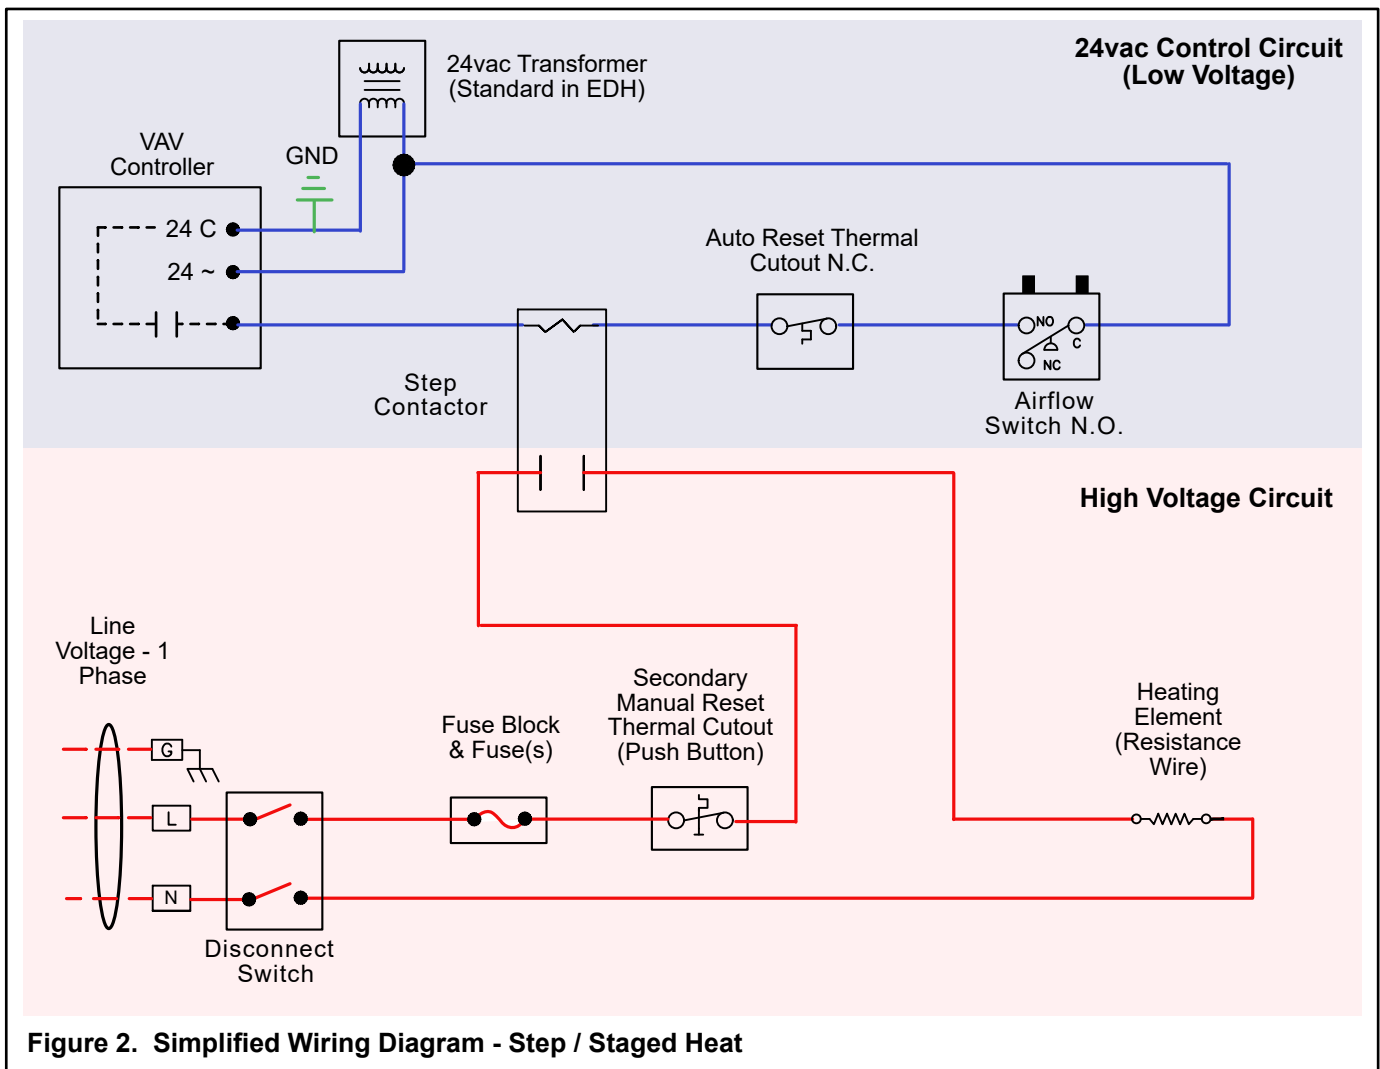

Figure 2. Simplified Wiring Diagram - Step / Staged Heat
A single duct VAV box with an Electric Duct Heater (EDH) consist of 2 parallel circuits. See figure 2 for a generic, simplified wiring diagram for a basic understanding of the heater controls arrangement. Actual heater wiring diagram is located on the inside of the hinged electric duct heater cover.
- A low voltage, 24vac control circuit consisting of a controller (DDC), 24vac transformer, air flow switch, and an automatic reset thermal cutout switch, and 24vac staging contactors (step heat). **IMPORTANT:** NEC codes require one leg of the 24vac secondary to be grounded AND the ground cannot be in the leg with the safety devices (air switch, thermal cutout). So for step heat, the controller output to energize each contactor stage of heat must be the grounded 24vac leg (24vac COM). See controller output in Figure 2 below.